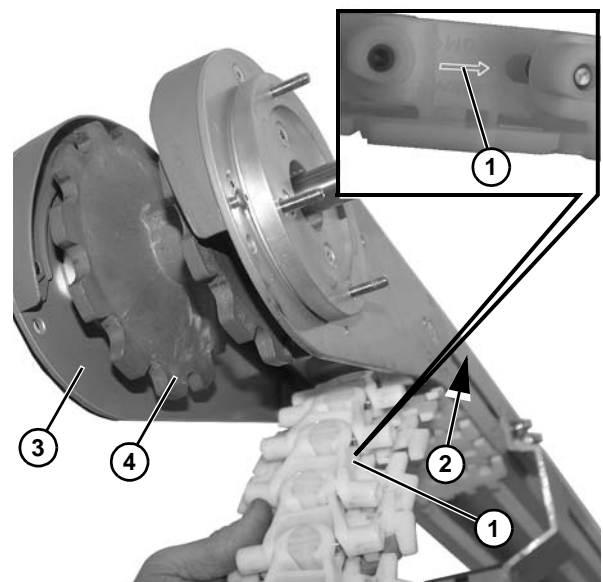

Figure 9
2. Install the belt with direction arrow (Figure 9, item 1) pointing in direction of belt travel (Figure 9, item 2). Install belt from under tail end (Figure 9, item 3) and onto cogs (Figure 9, item 4) of shaft.